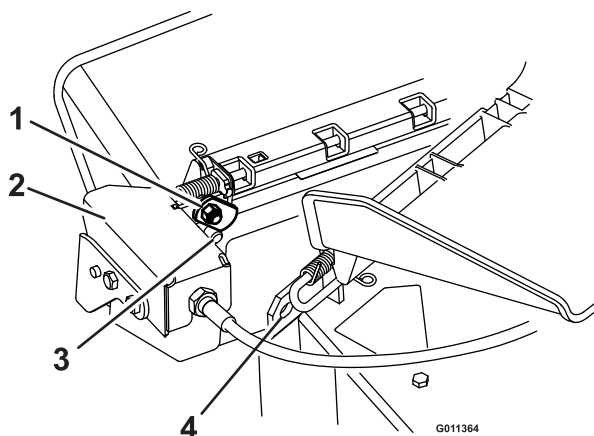

Figure 5
3. Pivot the assembly towards the deck. The front pin should engage into the slot in the deck as shown in Figure 5.
- Rotate the latch downward to lock the assembly in this position (reference Figure 5). Adjust the tension on the latch to hold the assembly up to the deck, yet allow for release by hand. Tension can be adjusted by tightening or loosening the hardware that retains the latch.